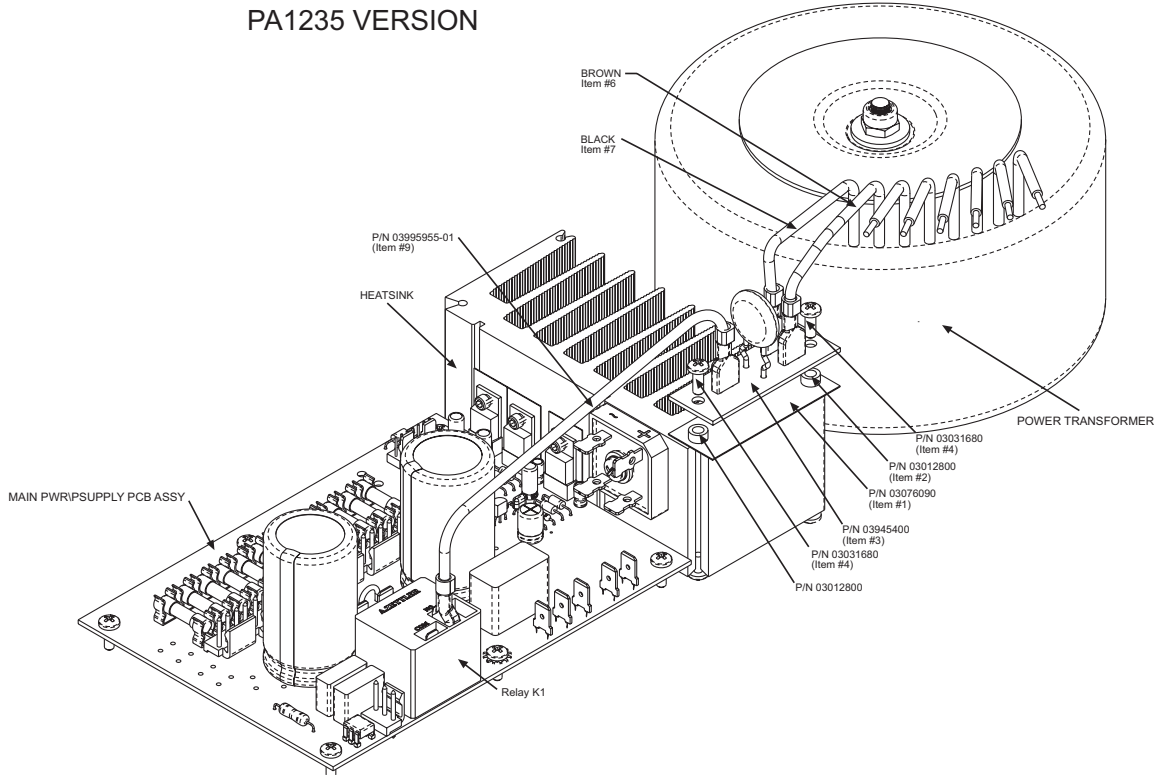

Figure 1: PA1235 110AC Version and General PCB Assembly
4. Place the Heatsink Shield (Item #1) over the threaded screw holes on the side of the large heatsink (see **Figure 1**).
Note: Make sure the connectors referenced T2 and T3 are oriented towards the power transformer as in **Figure 1**.